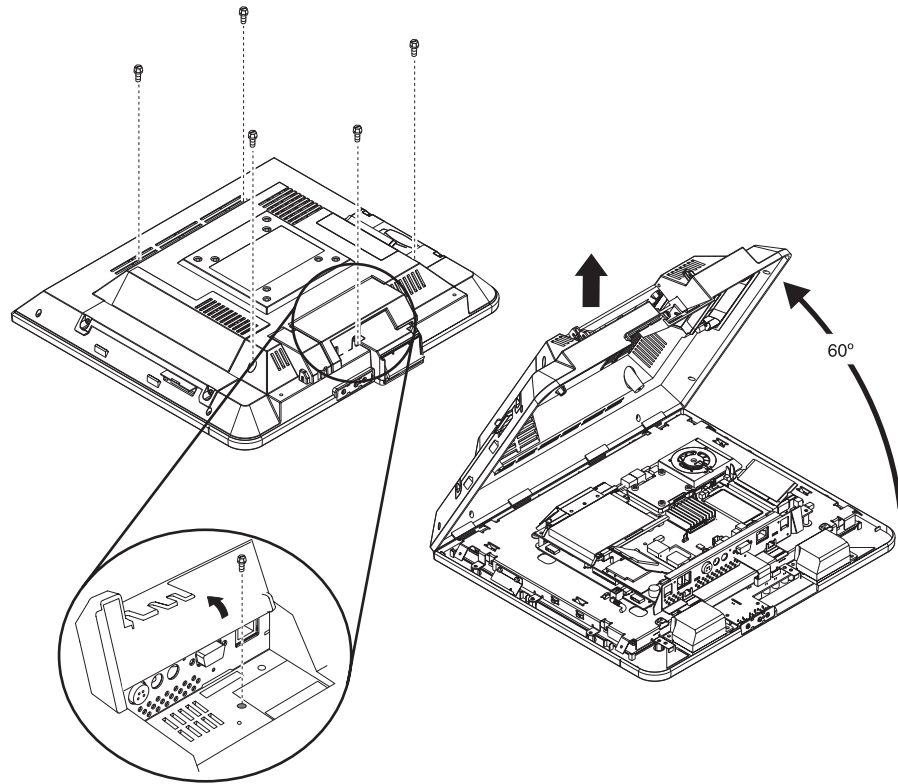

Figure 16. Removing the back covers
4. Locate and unfasten the five captured screws (see Figure 16) securing the back cover.
5. Lift the cover to approximately a 60-degree angle (see Figure 16) to release the hooks and reveal the main planar assembly.